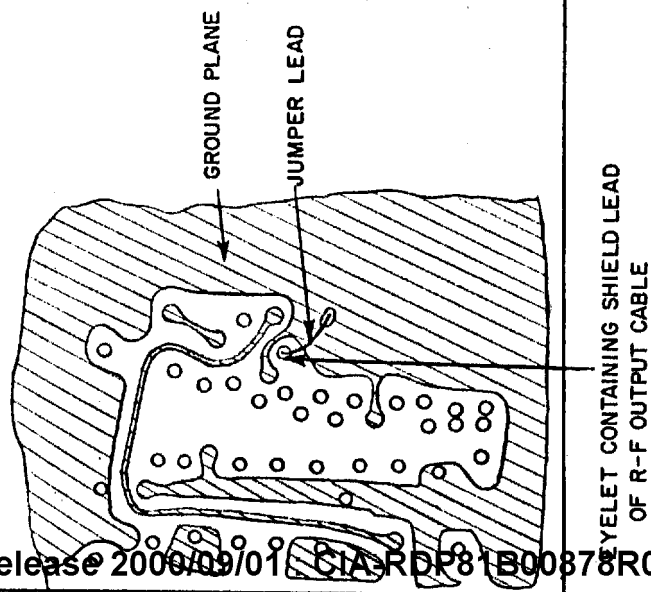

Figure 1. Location of Jumper Lead
The location of the eyelet containing the shield lead of the r-f output cable is indicated in figure 1. To ground the shielded lead of the cable, proceed as follows:
- c. Solder a jumper lead between the eyelet located in step a and the plug-in assembly ground plane, as shown in figure 1.